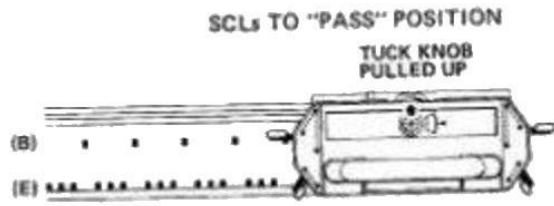

Fig.92
Set both SCLs to "PASS" position, and pull upward TK. Leaving in Position (B) every 4th needle starting with the extreme end needle on the right, draw out all other working needles to position (E). (Fig.92)